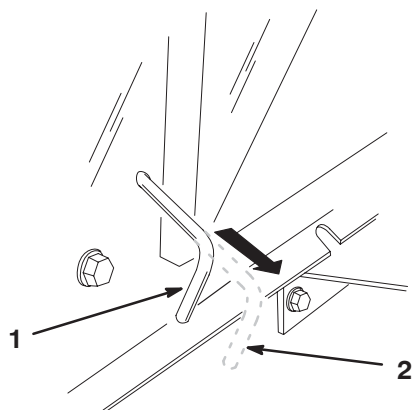

Figure 14
Note: This disengages the drive system and allows the wheels to turn freely (Fig. 14).
2. Push the drive control in to the Operate position (Fig. 14) to engage the drive system.